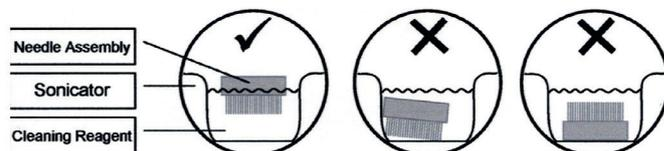

Figure 8. The correct position of the needle assembly in the sonicator.
3. Position the needle assembly in the sonicator as shown in Figure 8.